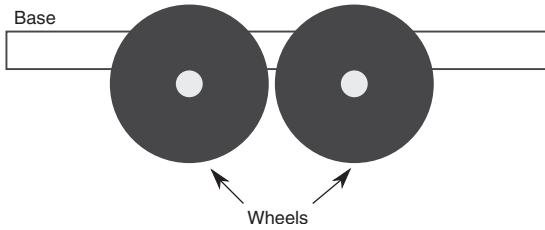

Figure 20-2 “Dually” wheels should be placed close to one another for maximum steering. If they are placed far apart, the robot cannot steer as easily.
- One technique is the "dually" drive, where a single motor drives the two wheels on each side (see Figure 20-2). The wheels are linked together by a chain, belt, or gear system. The